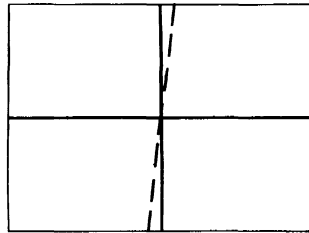

Fig. 3-23
- (9) Adjust RV5508 (H SKEW (R)) so that the red vertical center line is parallel with the green vertical center line (Fig. 3-23).